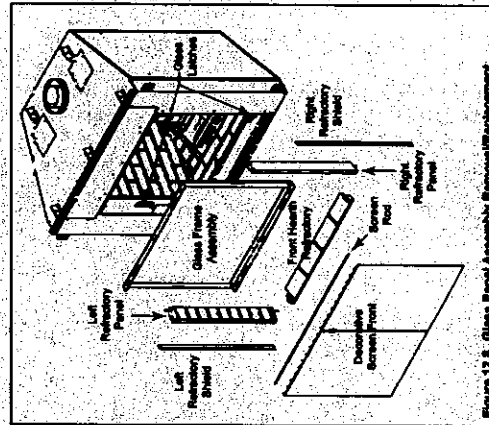

Figure 12.8 Glass Panel Assembly Removal/Replacement
- Removing/Replacing Glass Assembly (See Figure 12.8)**